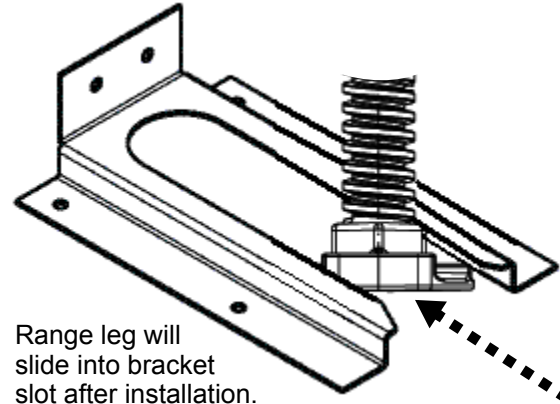
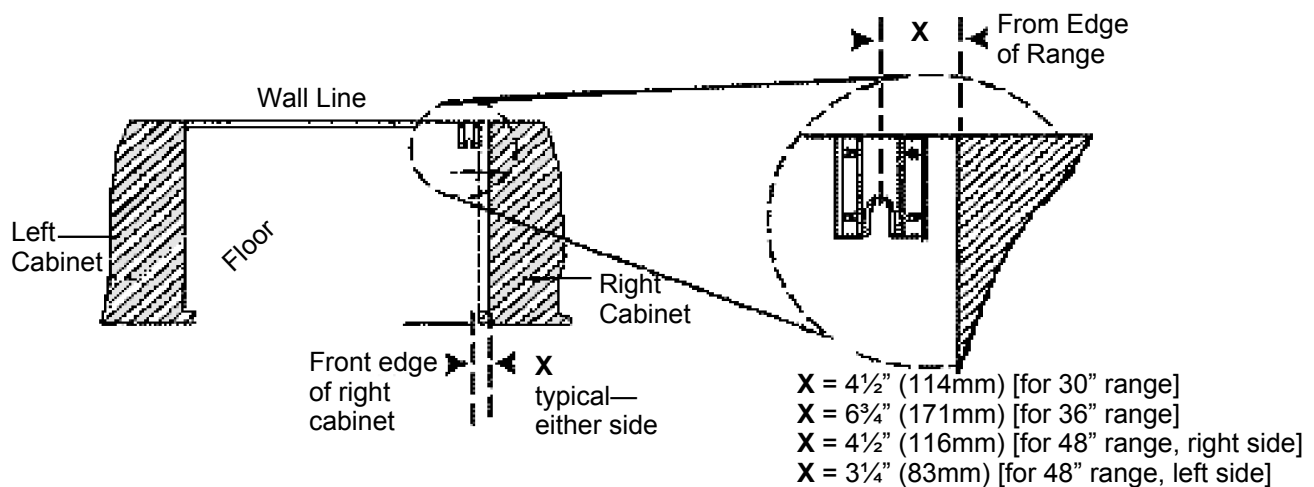

Figure 7: Anti-Tip Bracket
Figure 8: Placement of Anti-Tip Bracket (Top View)
1. Place bracket on floor in position shown in Figure 8.
2. Secure to floor and wall stud using the (4) 1 1/2" (38mm) Phillips head screws provided.
3. Later, when the unit is installed, the adjustable leg will slide under the bracket, as shown in Figure 7.